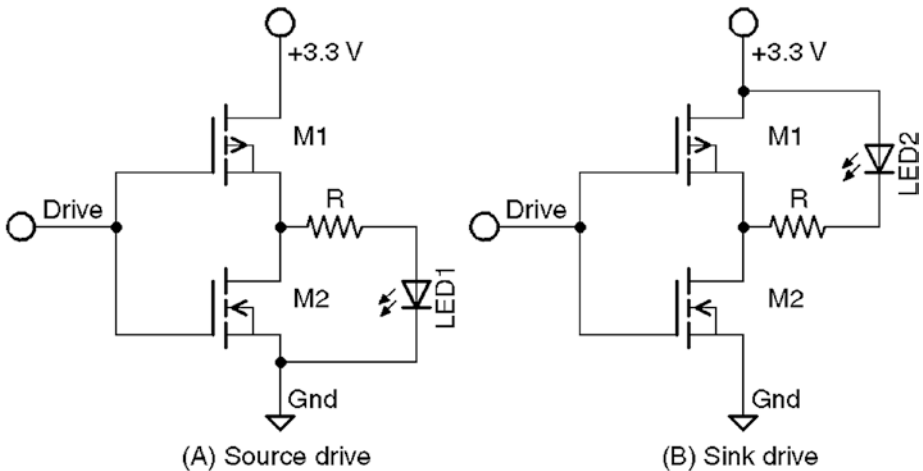

Figure 11-4. Raspberry Pi GPIO driving two LEDs through a limiting resistor. Active high configuration at (A) left. Active low configuration at (B) right.
When an LED is hooked up to the GPIO output port, *the load* becomes the LED and *current limiting resistor*. Figure 11-4 illustrates the two ways of driving an LED from a GPIO.
The LED and the $220\ \Omega$ limiting resistor can be wired according to Figure 11-4, either in the active high (A) or low (B) configuration.